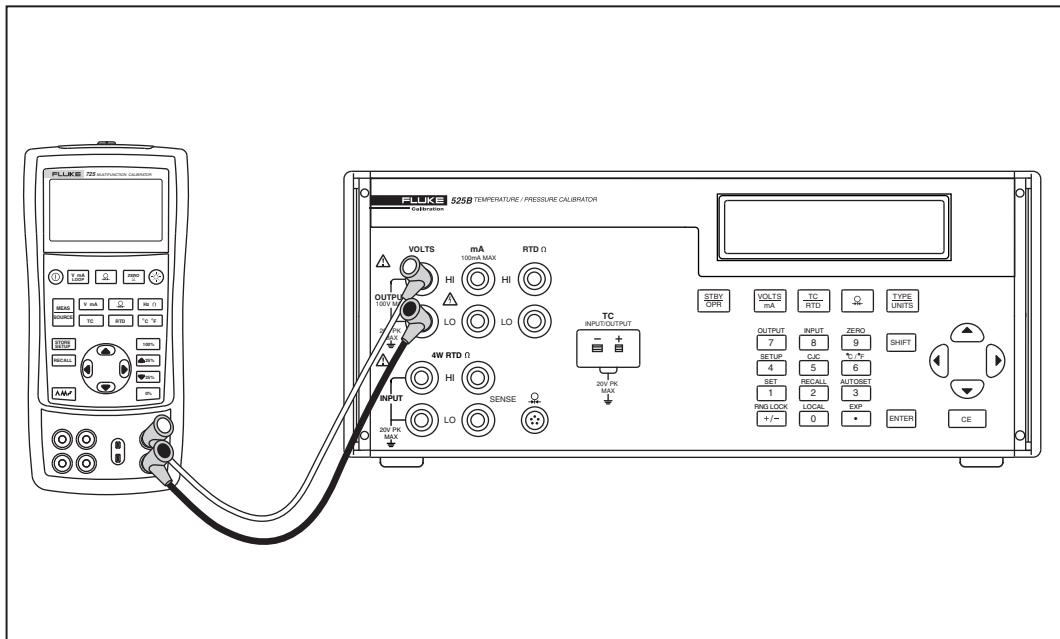

Figure 2-3. Connection for Setting DC Voltage Output
1. Connect the Calibrator to the UUT as shown in Figure 2-3.